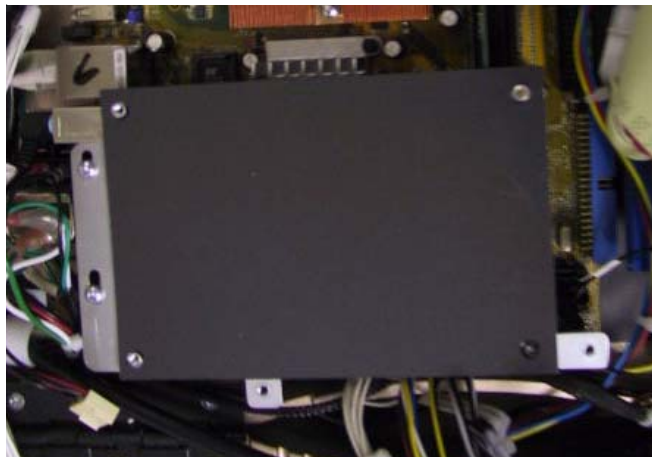

FIGURE 5 - FISH PAPER BETWEEN I/O BOARD AND MOUNTING PLATE
4. Remove the fish paper from underneath the I/O board. See Figure 5.